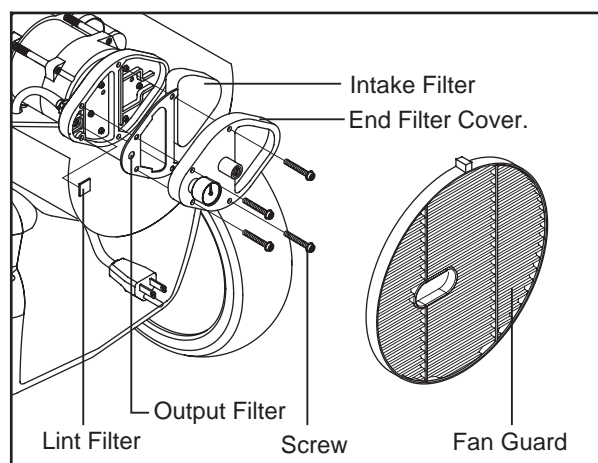

Figure 15. Air Output, Intake, and Lint Filters
- Remove Fan guard.(See Figure 15)